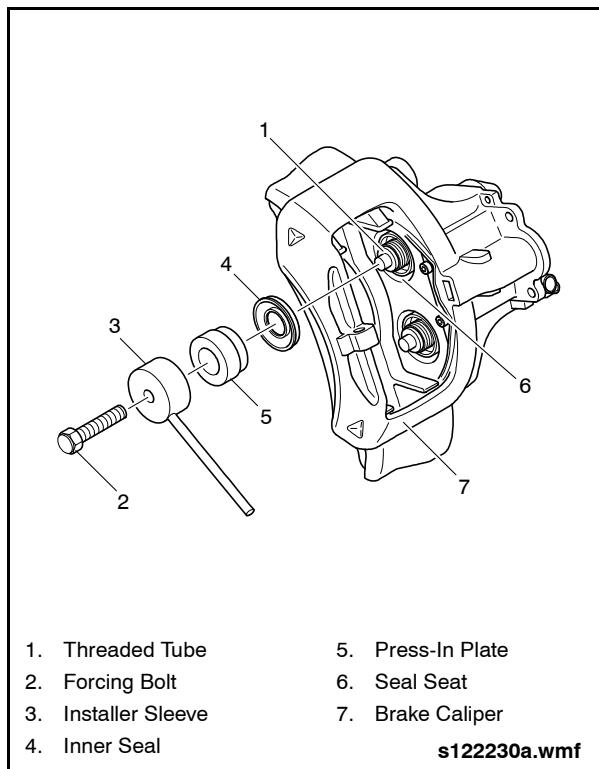

Fig. 2-138: Installing Inner Seal
2. Thread the long forcing bolt into the installer sleeve (Item 82 from special tools list). See "Fig. 2-138: Installing Inner Seal" on page 117.